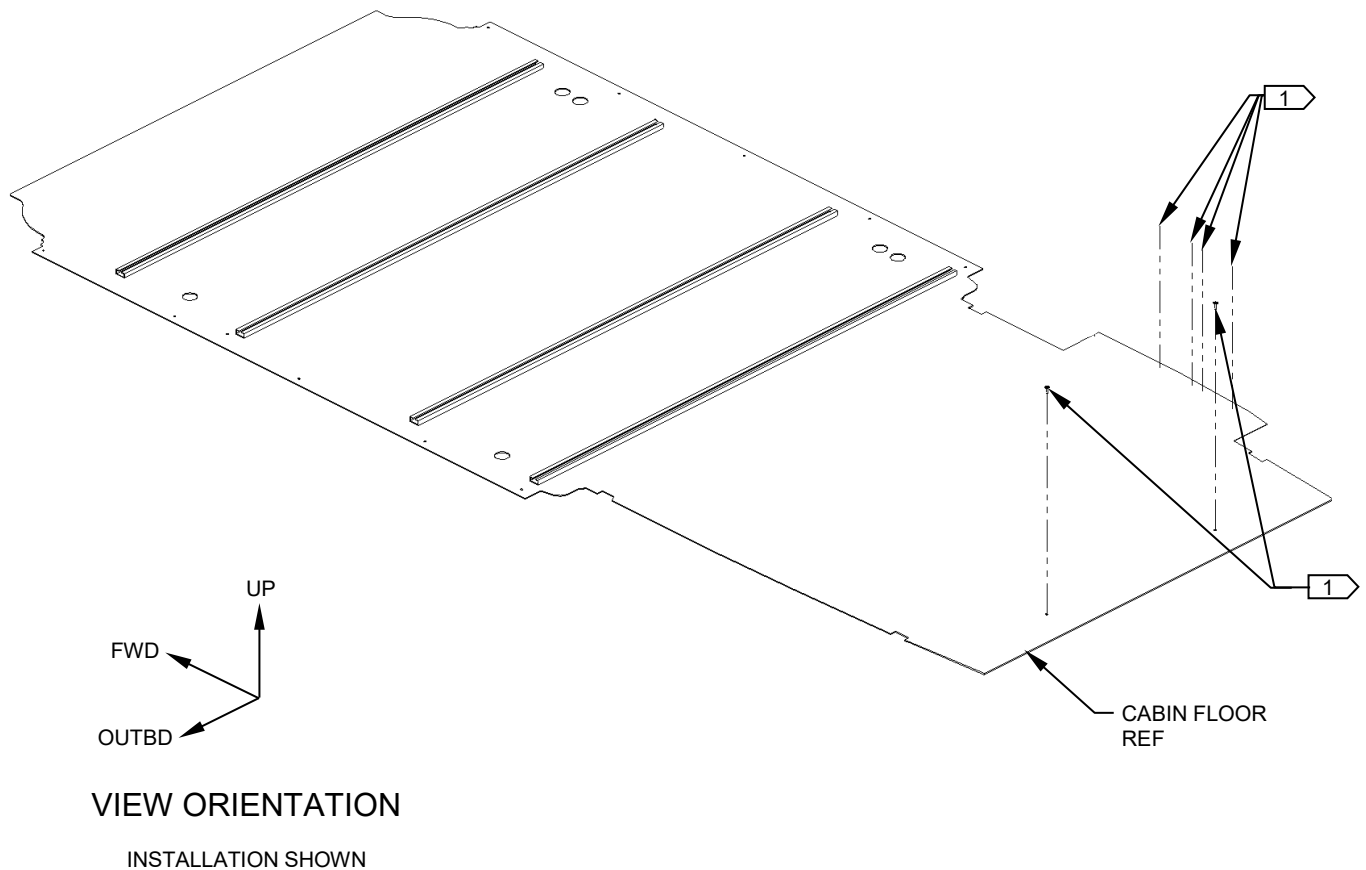

**Figure 1**
1. Gain access to the AFT section of the cabin floor. Reference Figure 1.